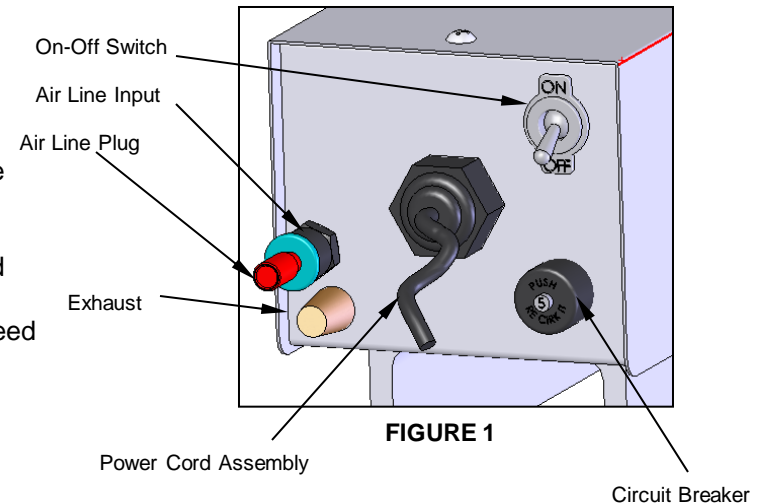

FIGURE 1
- Remove red air line input plug (pull red portion while pushing on the blue surrounding ring. Blue ring may be black depending on fitting that is available at the time of construction. (See Figure 1.)